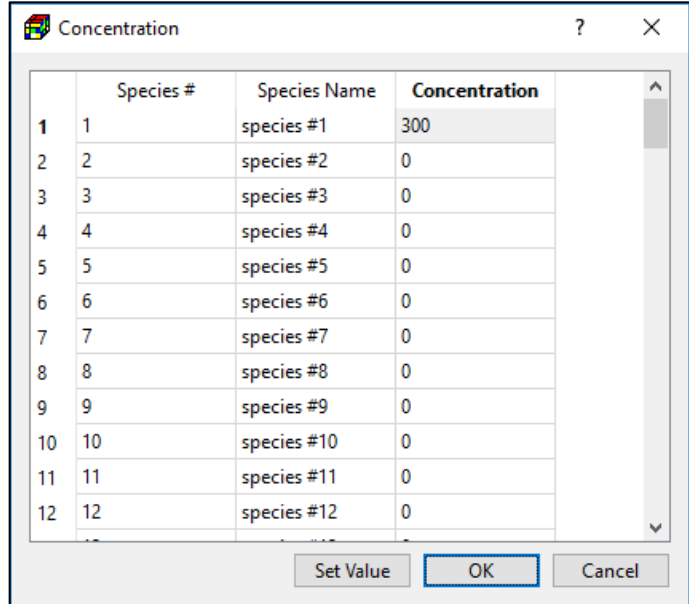

Figure 55. The Concentration dialog box
- **Concentration (MT3D/SEAWAT) [ML⁻³]:** Click the **Edit** button to open the Concentration dialog box (Figure 55) that allows you to specify the return flow concentration of up to 100 species. You can either enter individual concentration values to the table directly or click the *Set Value* button to enter a uniform value for all species. The entered concentration values may be used by the SSM Package of MT3D or SEAWAT.
- **Concentration (MT3D/SEAWAT) [ML⁻³]:** Click the **Edit** button to open a Concentration dialog box (Figure 55) that allows you to specify the return flow concentration of up to 100 species to the current vertex.
- **Concentration (MT3D/SEAWAT) [ML⁻³]**: Click the **Edit** button to open a Concentration dialog box (Figure 55) that allows you to specify the return flow concentration of up to 100 species to the current polygon.